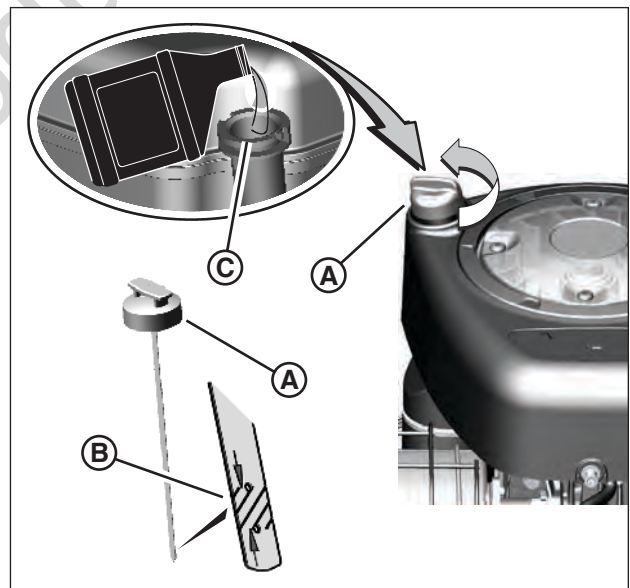

Figure 1: Engine oil
1. Remove the dipstick (A, Figure 1) and wipe with a clean cloth.